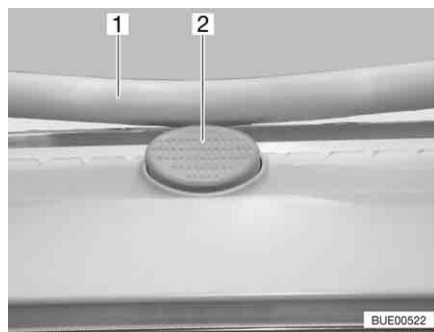

Fig. 88 Safety knob on the Heki skylight
- Press the safety knob (Fig. 88,2) and pull the bar (Fig. 88,1) down with both hands.
- Push the bar upwards with both hands until it is above the safety knob (Fig. 88,2).